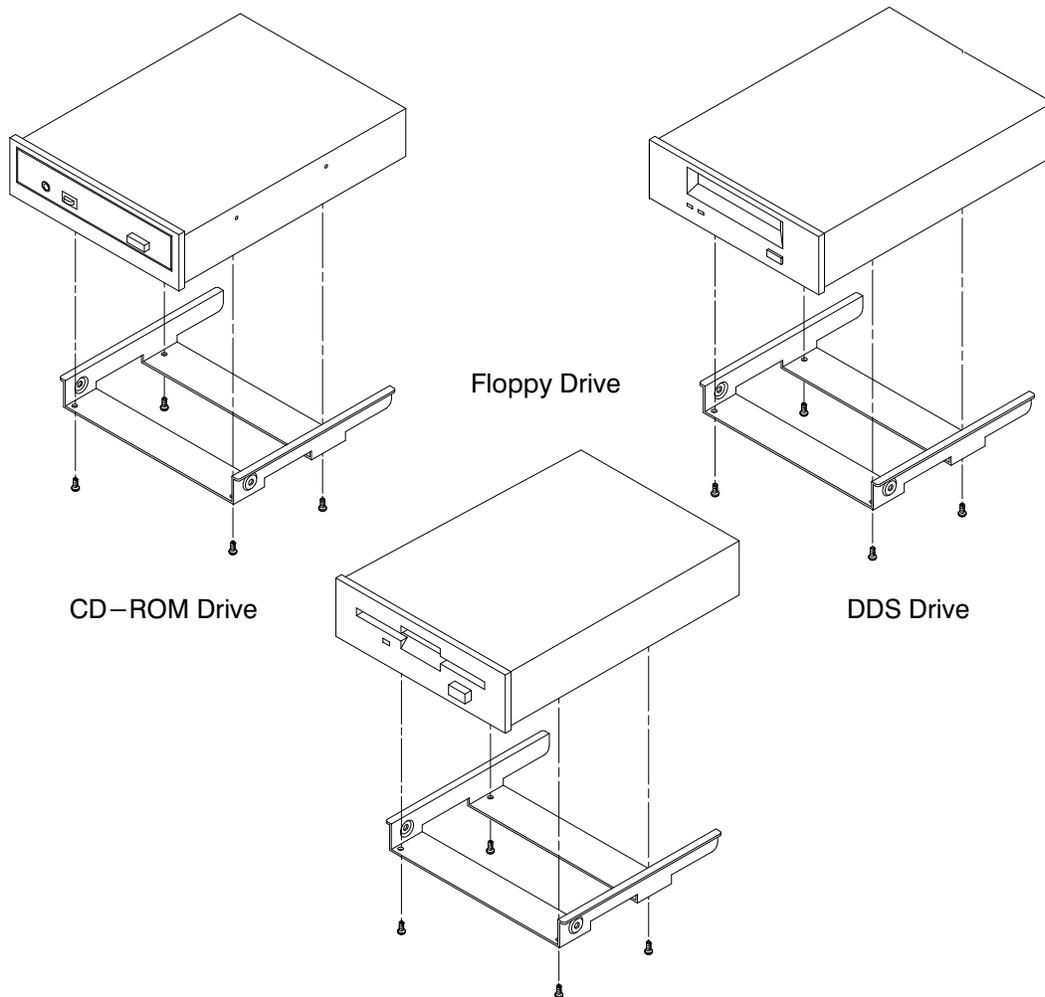

Figure A-12. Attaching Removable Drive Mounting Bracket and Drive Orientation
- 10.** Figure A-12 shows the orientation of each of the removable media drives in the bracket and the position of the screws holding the drive bracket in place. The same bracket can be used on all three drives.